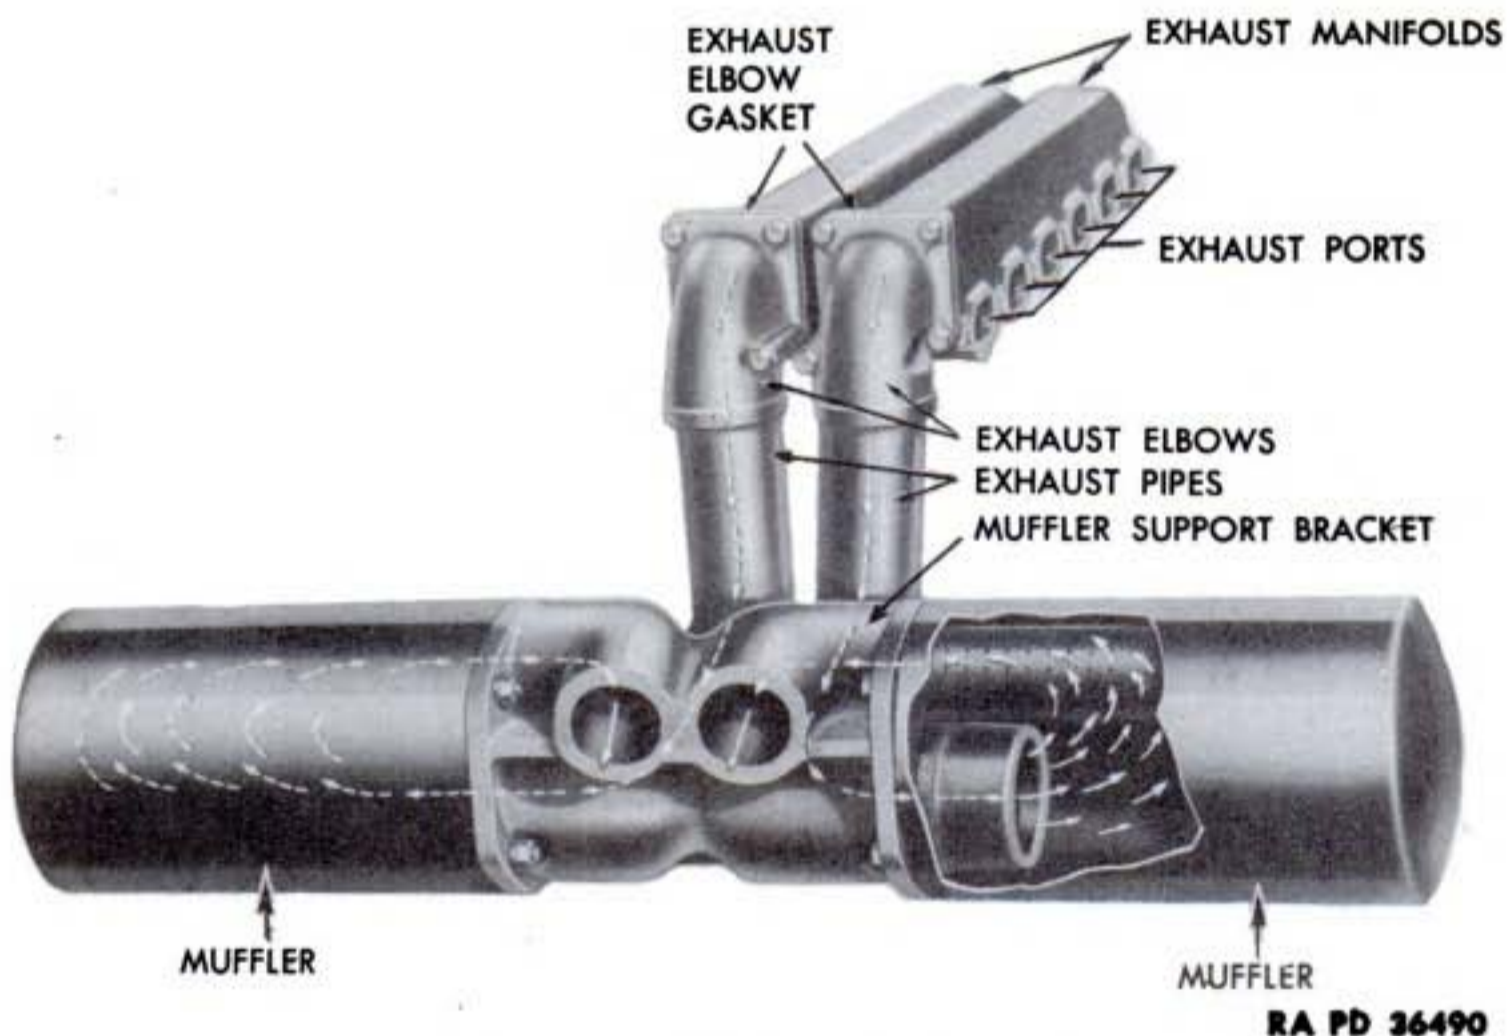

Figure 48—Exhaust System
a. Description. The two vertical exhaust pipes carry the exhaust gases from the manifolds, through openings in the muffler support bracket, to the mufflers (fig. 48). The upper ends of the pipes fit into the exhaust elbows. The lower ends fit into openings in the muffler support bracket. Because of the close fit of the pipes, no packing is required in either the exhaust elbows or muffler support bracket.
a. Description. Two mufflers, one for each engine, are used to silence the exhaust noise. The two mufflers are bolted to a dual muffler support bracket (fig. 48).